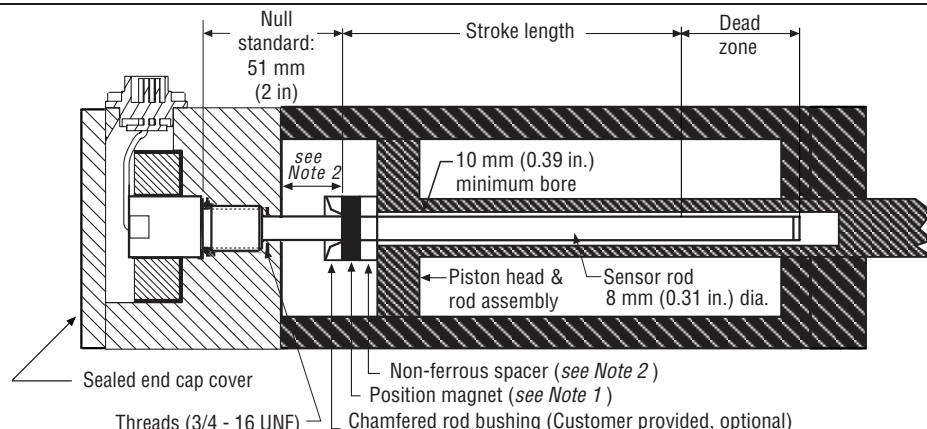

Figure 10. Typical cylinder installation
3. Figure 10 details a typical installation. Some installation requirements may be application specific.